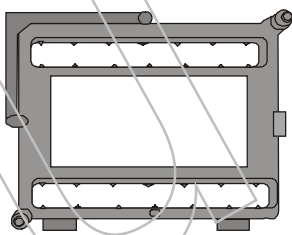

Fig. 2.2
2. Making sure the XGA chip holder is for XGA DMD. (as shown on above Fig. 2.2)